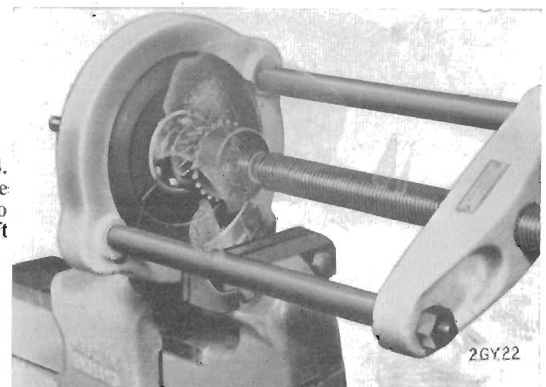

Fig. 45.
Having installed the large circlip (101) on the ball race outer member and placed the "top" synchro cup (93) over its cone on the input shaft, offer up the assembly and as the ball race is being driven into its housing, simultaneously locate the baulk-ring lugs in their respective slots in the synchro hub as shown on Fig. 45.